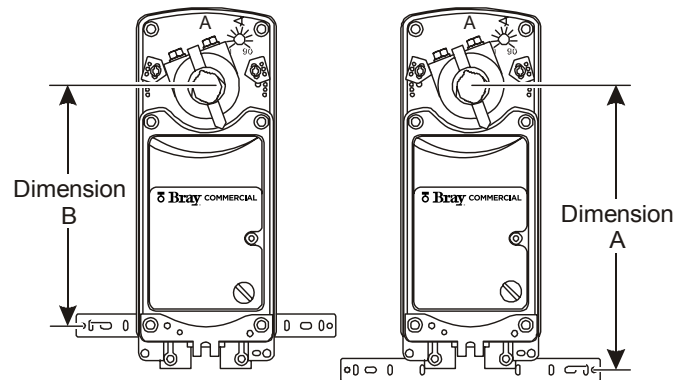

Figure 4: Positioning the anti-rotation bracket
1. See the dimensions in Figure 4 and Table 2 to ensure the correct positioning of the anti-rotation bracket.
3. Drill mounting holes in the damper frame or duct using the anti-rotation bracket as a guide (based on the measurements obtained in Table 2 and Figure 4).